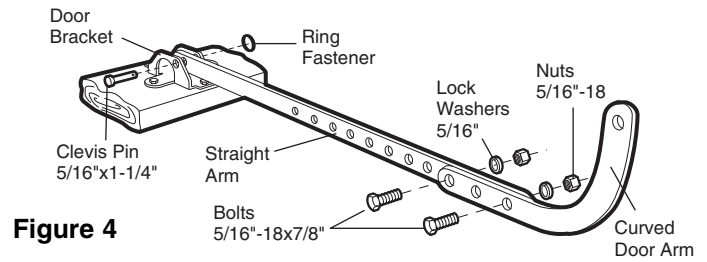

Figure 4
1. Assemble the door arm, Figure 4: